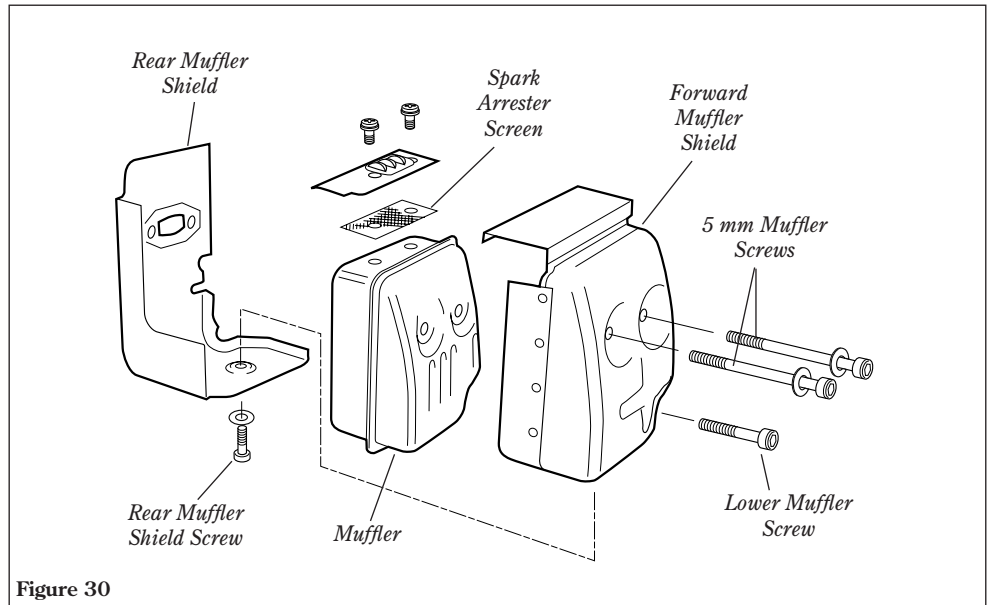

Figure 30
5. Remove the rear muffler shield socket head screw and, while noting the orientation of parts, separate the muffler shield. See Figure 30.